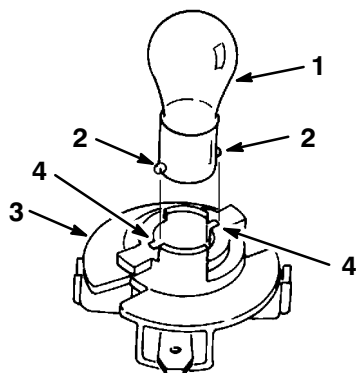

Figure 49
5. Push and rotate the bulb counterclockwise until it stops (approx. 1/4 turn) and remove the bulb from the bulb holder (Fig. 49).
1. The bulb has metal pins on the side of its base. Align the pins with the slots in the bulb holder and insert the base into the holder (Fig. 49). Push and rotate the bulb clockwise until it stops.